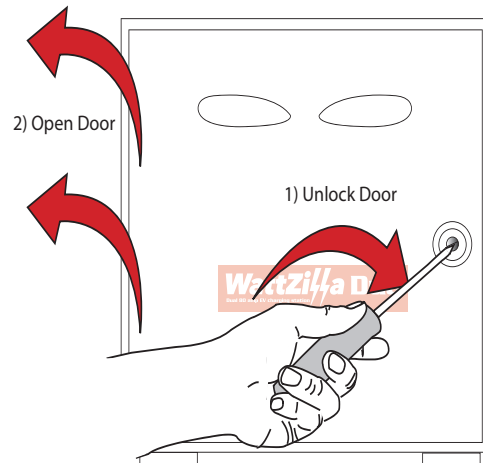

Figure 13. Opening the WattZilla Enclosure
1. Insert a hex wrench into the door latch and turning the tool counter clockwise until it stops at the open position (Figure 13). Open the WattZilla enclosure door.